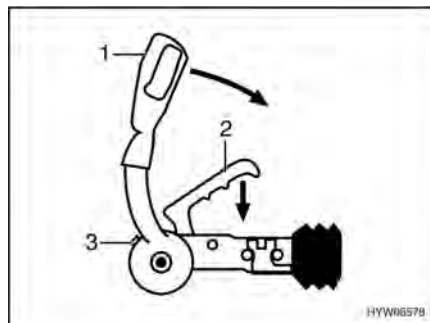

Fig. 3 AKS 3004 stabiliser
- Pull up the stabilising lever (Fig. 3,1) as far as possible.
- Pull the coupling handle (Fig. 3,2) upwards.
- Conduct a visual inspection: The green cylinder on the safety indicator (Fig. 3,3) must be visible.
- Activate the stabilising mechanism. Push the stabilising lever (Fig. 3,1) down to its stop limit.